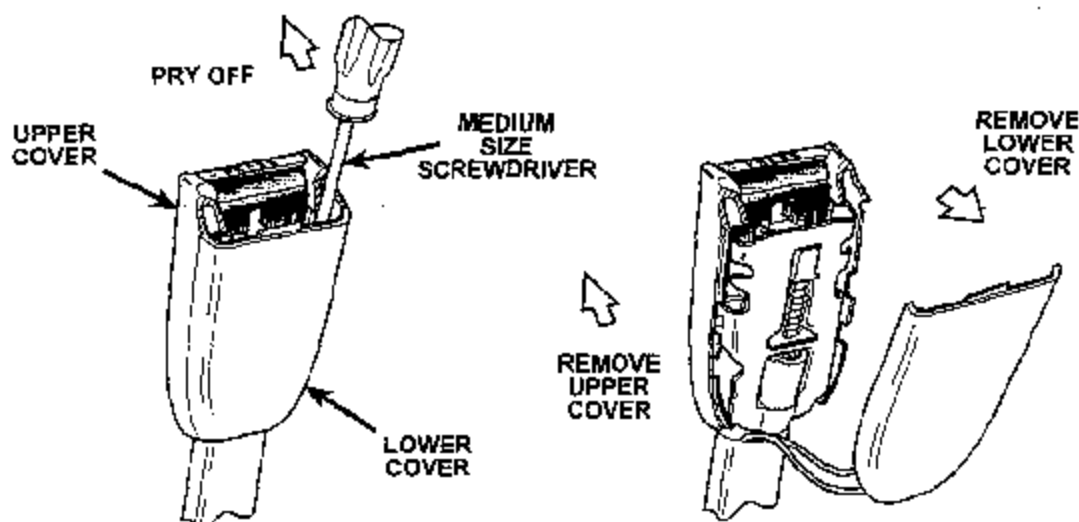

FIGURE 2
5. Remove the lower buckle cover by inserting a medium size screwdriver into the holes created in the upper cover in Step 4 and prying the bottom cover off (Figure 2). Pry with the screwdriver blade against the lower cover being careful not to damage the buckle mechanism.